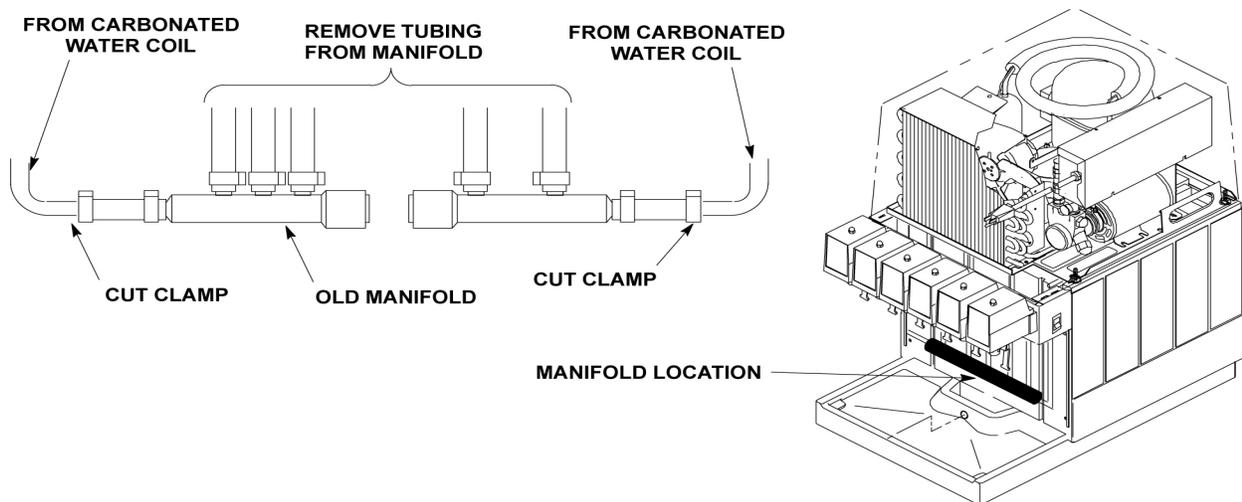

Figure 1. Plastic Carbonated Water Manifold Location
These instructions outline the step-by-step procedures to replace the plastic water manifold located behind the Dispenser front access panel (see Figure 1) with parts contained in the Water Manifold Replacement Kit (P/N 569000214). Retain these instructions as part of your equipment manual.
5. Remove screws securing Dispenser front access panel, then remove panel for access to the plastic carbonated water manifold located behind the panel (see Figure 1).
2. Remove the carbonated water tubes leading to the dispensing valves from the plastic carbonated water manifold(s) outlets (see Figure 1).
3. Cut clamp(s) connecting the plastic carbonated water manifold(s) tube(s) connected to the carbonated water cooling coil(s) (see Figure 1), then disconnect tube(s) from coil(s). Discard old plastic carbonated water manifold(s).